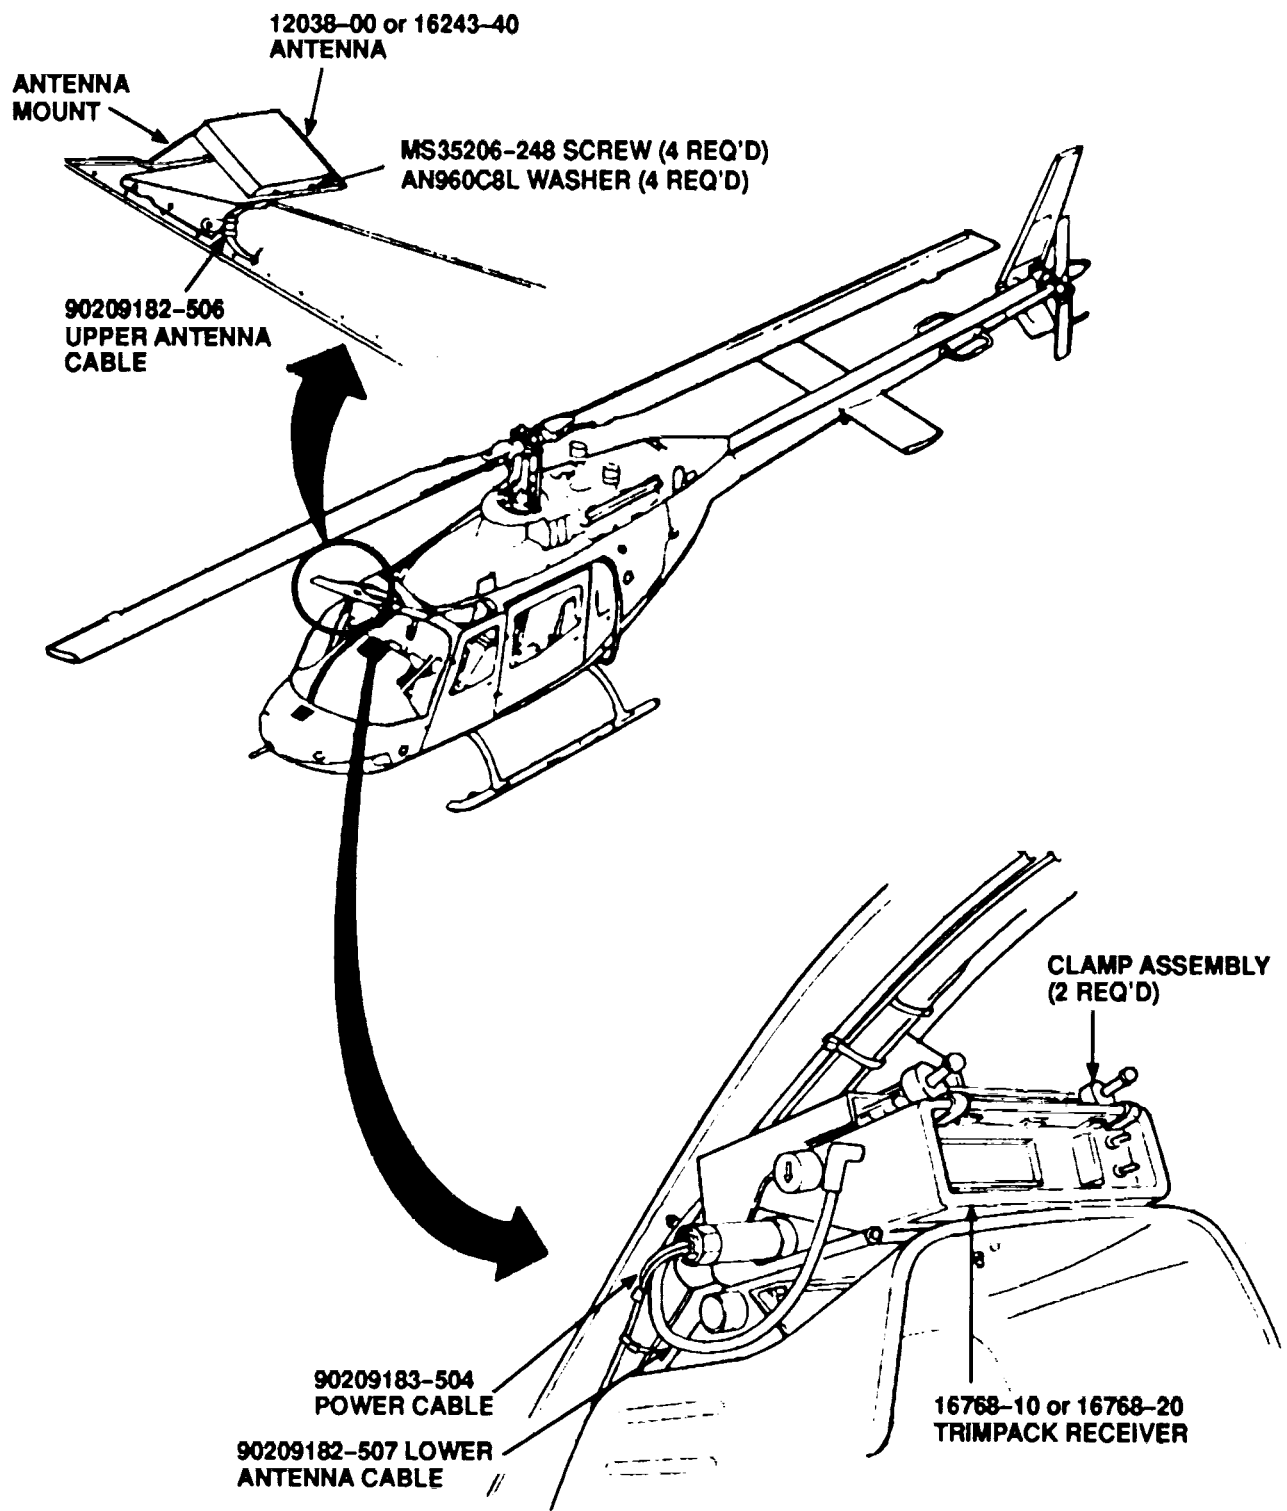

Figure 6. GPS Antenna and Trimpack Receiver Installation.
- (1) Perform continuity check on coax cable for Trimpack remote antenna.
- (2) Close access to overhead console circuit breakers and wiring.
- (3) Install overhead cabin sound proofing blanket.
- (4) Connect aircraft battery.
- (5) Apply aircraft power to provide 28 VDC to GPS circuit breaker.
- (6) Verify pin B of GPS five pin audio connector is common with airframe ground.
- (7) Verify that pin D has 28VDC (Figure 6).
- c. Install GPS antenna on mount (Figure 6).
- f. Install GPS Trimpack receiver in mount and secure with clamp assemblies (Figure 6).
- g. Connect power and antenna cables to receiver (Figure 6).